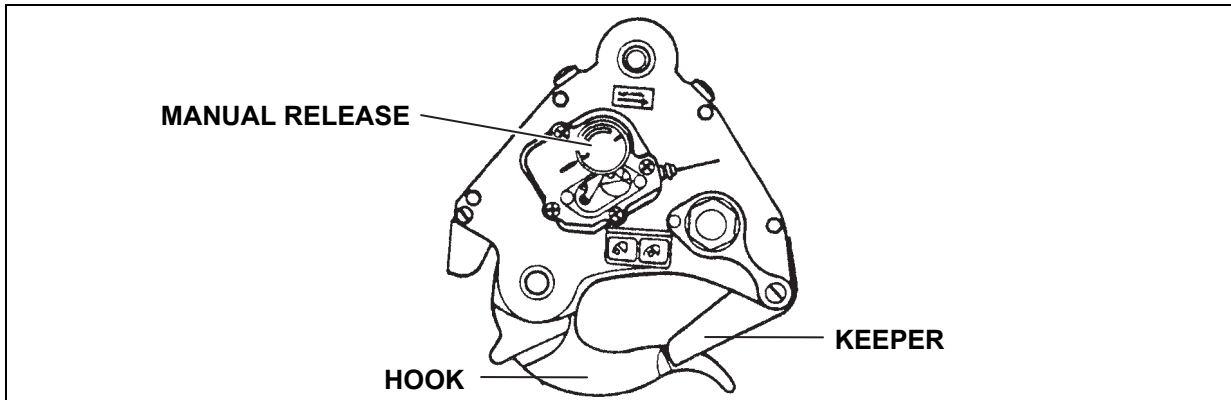

Figure 2-15. H-47 Forward and Aft Cargo Hooks
- The forward and aft cargo hooks (figure 2-15) maximum capacity, when used to carry individual single-point loads, is 17,000 pounds; however, loads that weigh 7,000 to 10,000 pounds are normally carried on the center cargo hook. Normally, the two hooks are used together to carry a dual-point (tandem) load and the maximum load weight capacity is 25,000 pounds. The aircrew can open the forward or aft cargo hook electrically or manually from inside the aircraft. A manual release knob is located on the right hand side of either cargo hook. In an emergency, the ground crew can rotate the manual release knob counterclockwise to open the cargo hook.